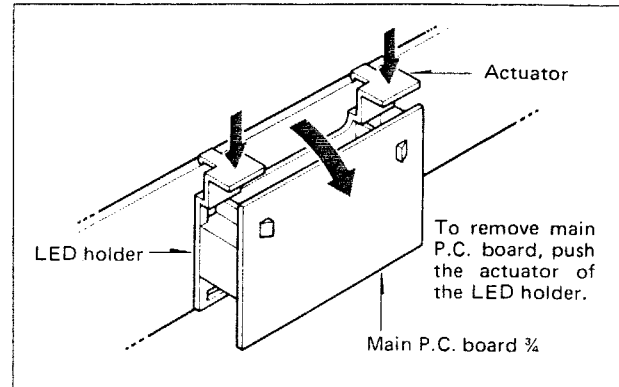

Fig. 1
- Remove the main P.C. board 3/4 which is attached to the front panel as shown in Fig. 1.